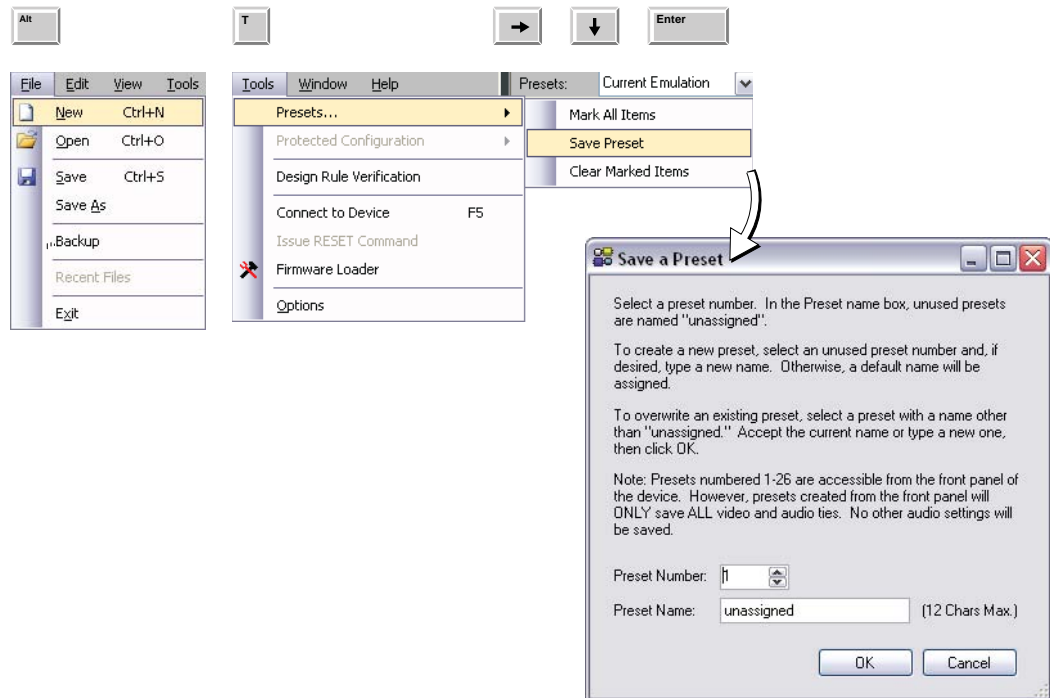

Figure 5-21 — Saving a preset using keyboard navigation
6. To save a preset, press Alt  > T  > right arrow  > down arrow  > Enter  (figure 5-21).